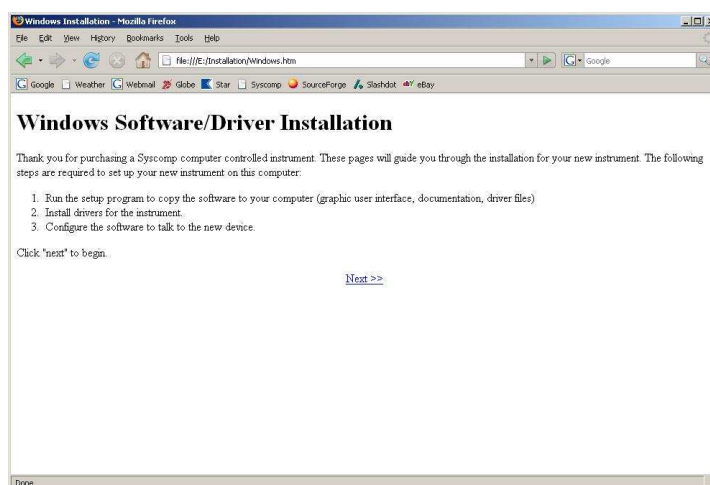

Figure 32: Windows Software/Driver Installation
2. Click on **Windows Installation: Click here**. The screen of figure 32 appears.
The screen shown in figure 32 reappears. (Actually, it's been there all along, it would be more accurate to say it is now *uncovered*.)